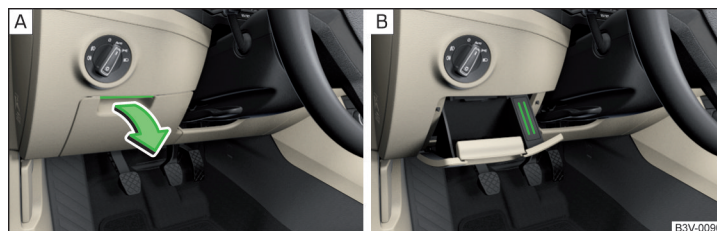

Fig. 104 Opening the storage compartment / card holder
- To **open**, lift the handle and fold out the compartment » Fig. 104 **A**.
A card holder is located in the storage compartment » Fig. 104 **B**.